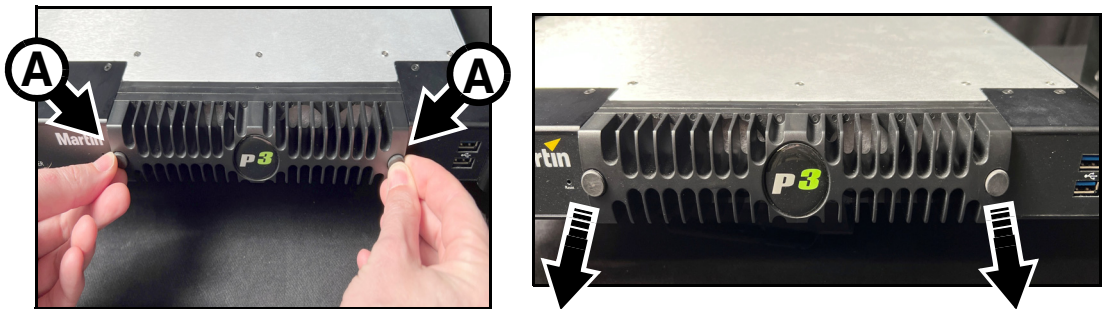

Figure 8: Access to air filters, P3-175
2. See Figure 8. Loosen the two thumbscrews **A** in the fan grill (arrowed) and unhook the fan grill from the controller.